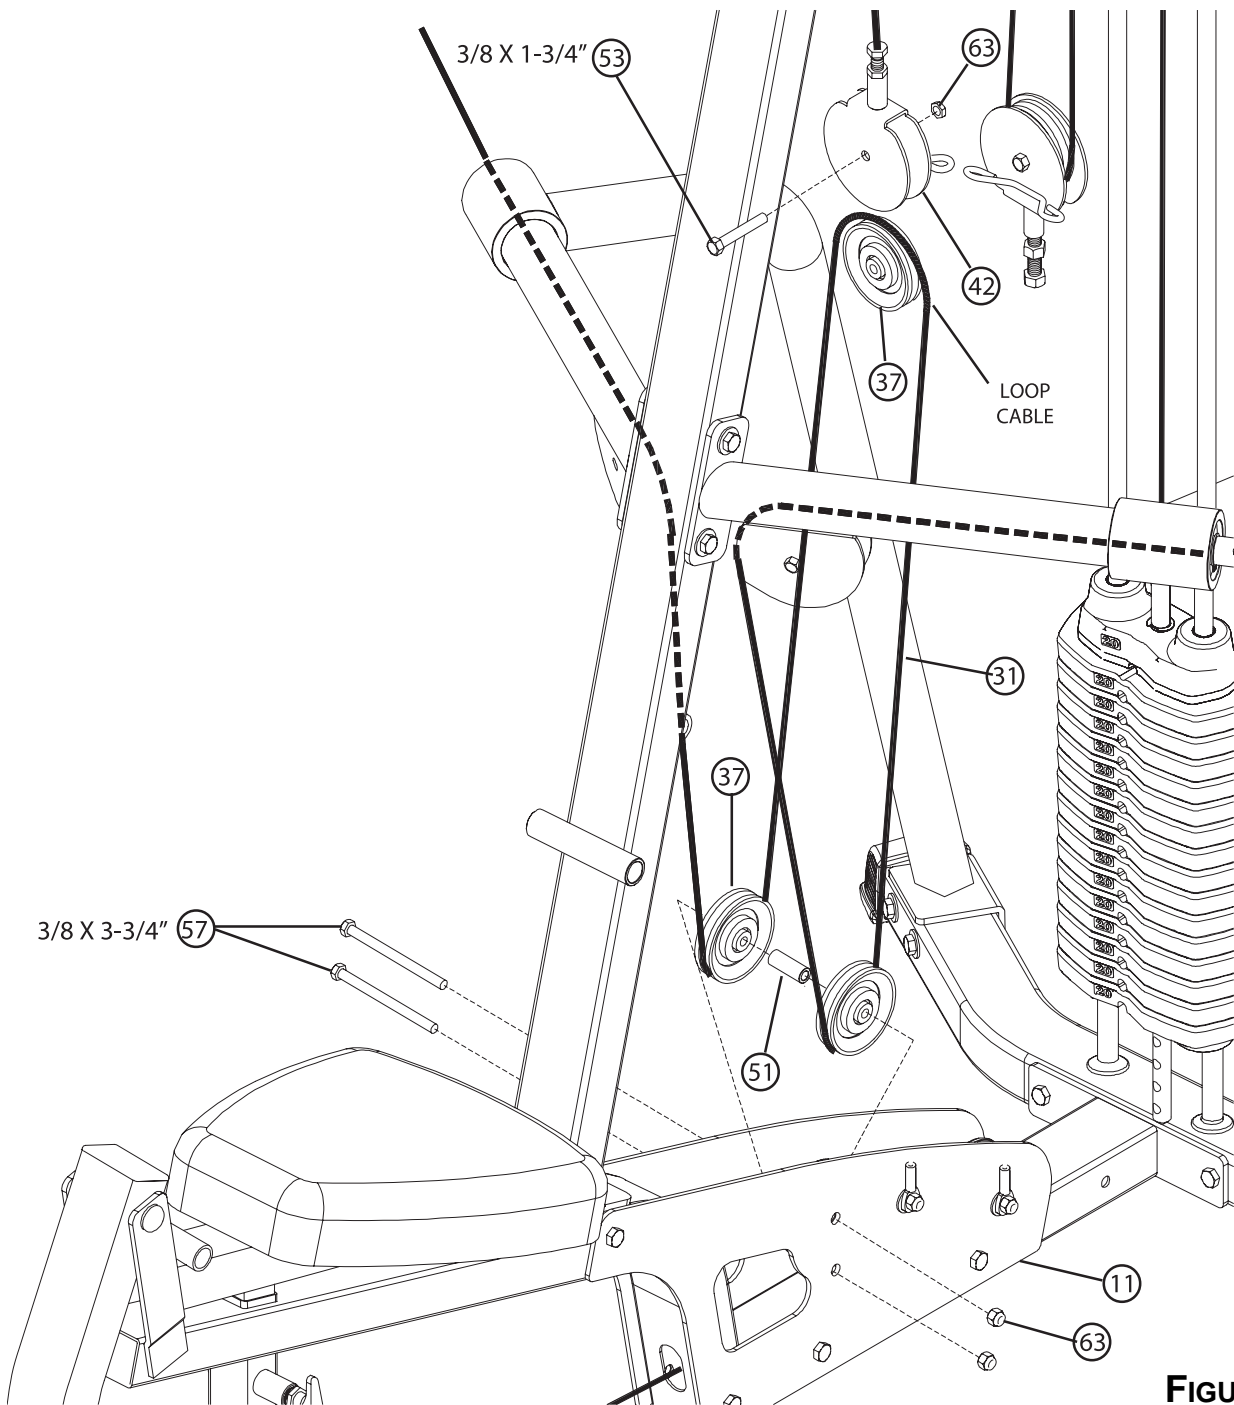

FIGURE 17
- Securely assemble two 3-1/2" PULLEYS (37) to the BASE PLATES (11), using two 3/8 x 3-3/4" BOLTS (57), one 3/8 x 1" SPACER (51) and two 3/8" SILVER LOCK NUTS (63).
- Loop the ARM CABLE (31) between the two PULLEYS (37) around one 3-1/2" PULLEY (37) as shown in Figure 17.
- Securely assemble the 3-1/2" PULLEY (37) with the Arm Cable (31) around it to the GUIDE BRACKET (42), using one 3/8 x 1-3/4" BOLT (53) and one 3/8" SILVER LOCK NUT (63).